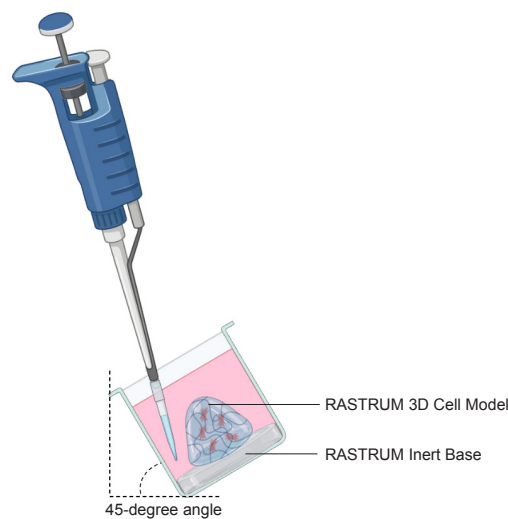

Figure 1. Schematic representation of liquid handling with RASTRUM 3D cell models.
3. Remove the cell culture medium from all wells of the plate by tilting the plate at a 45-degree angle, inserting the tip along the edge of the well to just above the bottom of the well, and aspirating the cell culture medium (**Figure 1**).